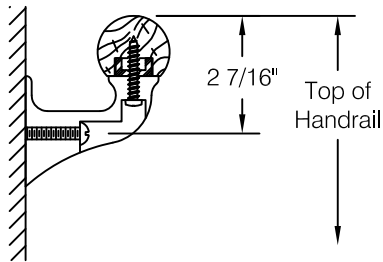

fig 1
- Step 1:** Determine top of handrail height and snap a chalk line 2 7/16" below to locate centerline of the mounting hardware, see **fig 1**.